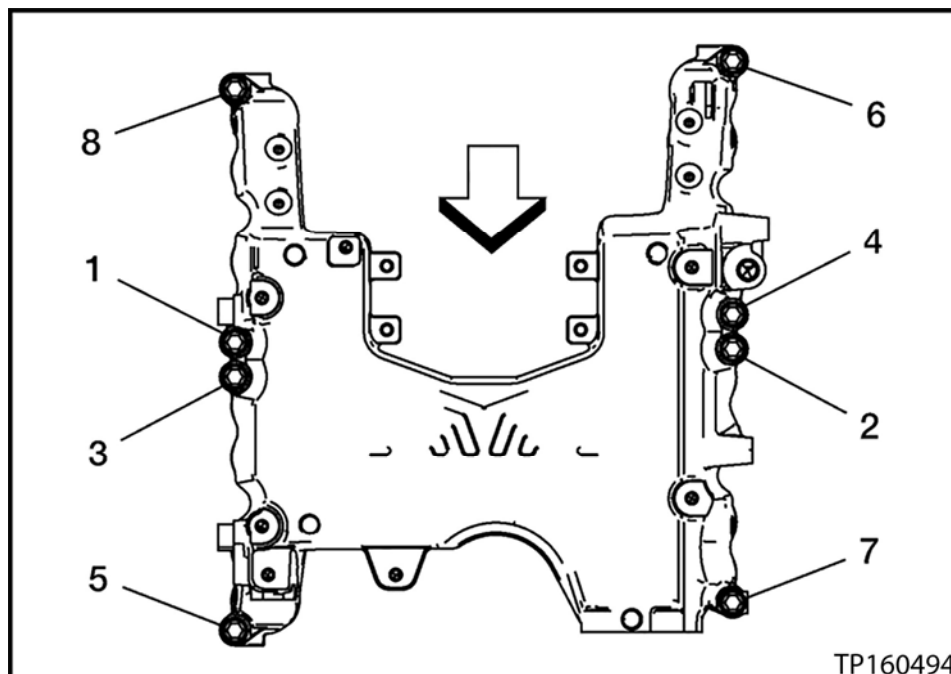

Figure 81
- See Figure 81 for torque sequence.